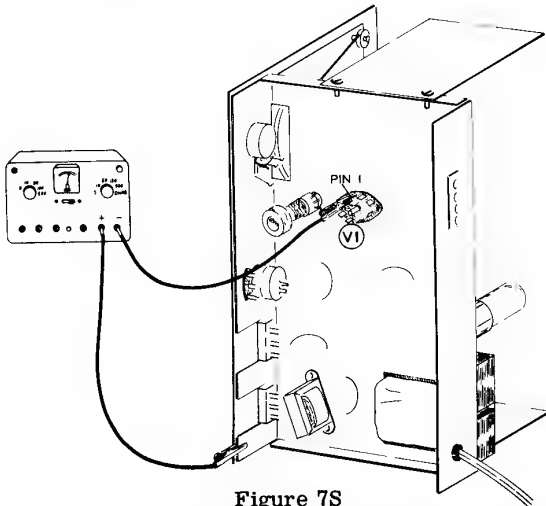

Figure 7S
- () Place the chassis on its side as shown in Figure 7S.